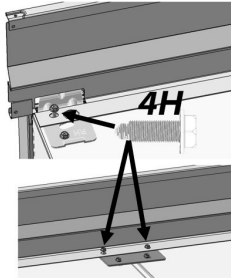
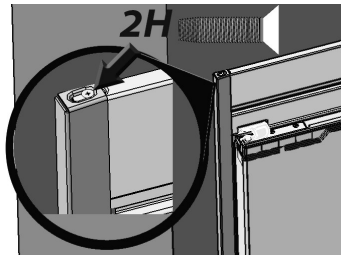

Fig. 21
Fig. 23
22. a. Remove the front outer hinge screws, common on both sides of the dual installation, as well as the two 4H screws that fasten the 1H Tie Bar (Fig. 21).
- c. Install the top trim by fastening four 4H screws along the base of the trim with a $\frac{5}{16}$ " socket wrench (Fig. 21).
24. a. Place side trims in position by dropping them over the placement screw as seen in Fig. 21 and fitting over the top trim (Fig. 23).